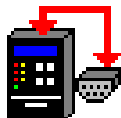

Figure 9-1 TapTalk Program-Item Icon
4. The Installation Wizard will prompt the user through the installation process. After installation, the TapTalk program icon (located in the Becoware folder) can be placed on the desktop (Figure 9-1).